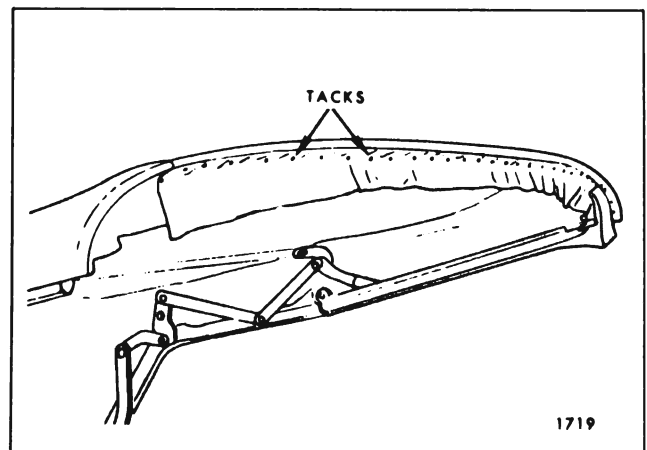

Fig. 13-44 — Installation Of Top Material To Front Roof Rail
29. Unlock top from windshield header and apply nitrile cement or neoprene-type weatherstrip adhesive to tacking area of front roof rail and corresponding surface of top material. Pull top trim material slightly forward so that pencil marks are on underside of front edge of front roof rail. Fasten top trim to cemented area and stay tack trim to rail (Fig. 13-44).